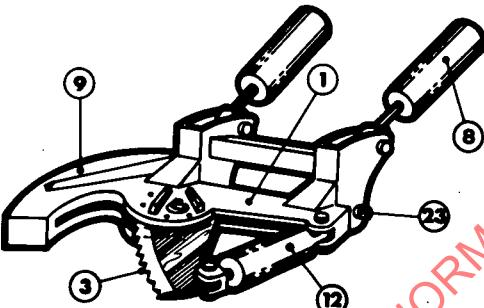

FIG. 1—PIVOTED SINGLE BLADE
4.1.1 Pivoted Single Blade—Felling is by a single shear blade that travels in an arc about an axis perpendicular to the plane of cutting and works against an anvil for cutting (Fig. 1).